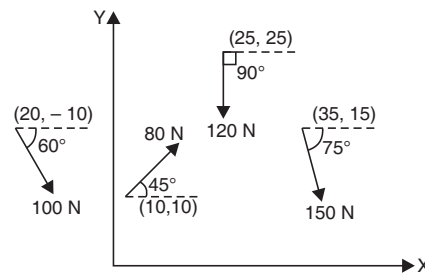

Fig. 2.58
**Example 2.35.** Determine the resultant of the force system shown in Fig. 2.58. Assume that the co-ordinates are in metres.